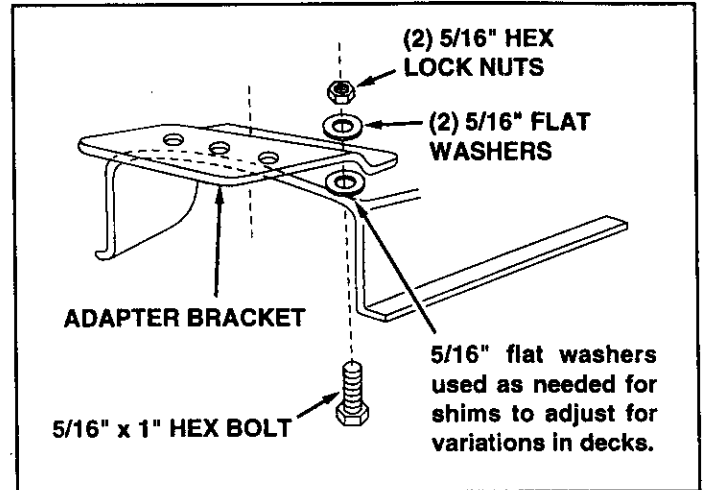

FIGURE 32
- Assemble the adapter bracket to the deck using two 5/16" x 1" hex bolts, 5/16" flat washers and 5/16" hex lock nuts. See figure 32.
**NOTE:** It may be necessary to use extra 5/16" flat washers to shim under the bracket next to the deck surface. Ten extra washers have been furnished as shims. See figure 32.